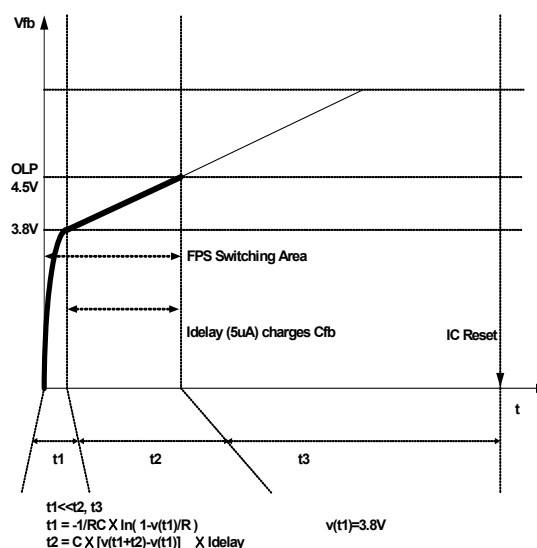

Figure 8. Over Load Protection Delay
4.1 Over Load Protection (OLP) : Overload is a load current that exceeds a pre-set level due to an abnormal situation. If this occurs, the protection circuit should be triggered to protect the SMPS. It is possible that a short term load transient can occur under normal operation. If this occurs, the system should not shut down. In order to avoid false shut-downs, the over load protection circuit is designed to trigger after a delay. Therefore the device can discriminate between transient overloads and true fault conditions. The device is pulse-by-pulse current limited and therefore, for a given input voltage, the maximum input power is limited. If the load tries to draw more than this, the output voltage will drop below its set value. This reduces the photo-coupler LED current, which in turn, will reduce the photo-transistor current. Therefore, the 400uA current source will charge the feedback pin capacitor, Cfb, and the feedback voltage, Vfb, will increase. The input to the feedback comparator is clamped at around 3.8V. Therefore, once Vfb reaches 3.8V, the device is switching at maximum power. At this point the 400uA current source is blocked and the 2.5uA source continues to charge Cfb. Once Vfb reaches 4.5V, switching stops. Therefore the shutdown delay time is set by the time required to charge Cfb from 3.8V to 4.5V with 2.5uA, as shown in Figure 8.